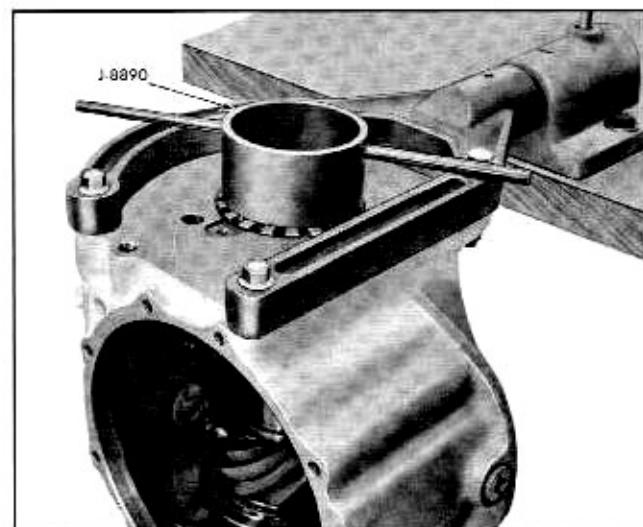

Fig. 4-24 Tool Positioned to Remove Front Pinion Bearing Adjusting Nut
10. Remove front pinion bearing adjusting nut using J-8890 (Fig. 4-24).